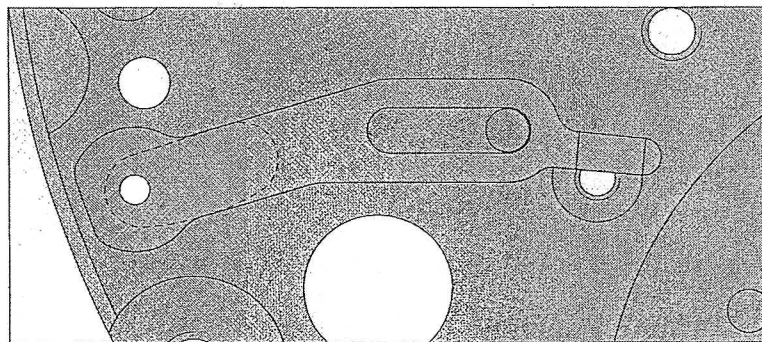

Fig. 6
- 2.5. Fit underneath the winding bridge, the core for crown wheel and the crown wheel (flat toothing on the bridge side). Fit on the main plate the spring for balance stop, its opening in the stud and its round hole on top of the oblong cut of the plate, see Fig. 6. Fit the winding bridge.